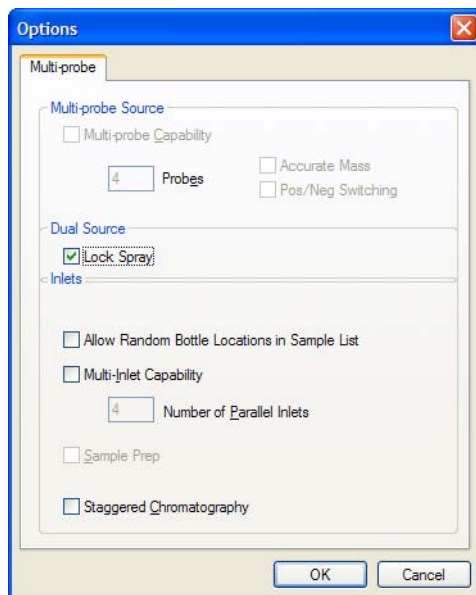

Figure 2-3 The Options Dialog Box
3. To run in LockSpray mode ensure that LockSpray is enabled by Clicking Options on the Instrument Shortcut bar to open the options dialog box (Figure 2-3).